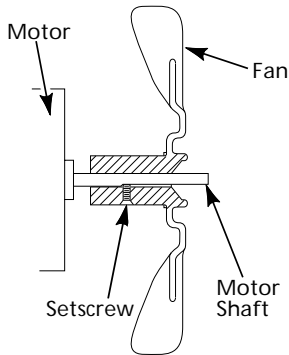

Figure 12 - Fan Cross Section, Model 3E219C
6. (Models 2E510D, 2E511D, and 3E218D) Replace fan on motor shaft. Place fan hub flush with end of motor shaft (see Figure 11). (Model 3E219C) Replace fan on motor shaft. Make sure set screw is touching back of flat surface on motor shaft (see Figure 12, page 7).